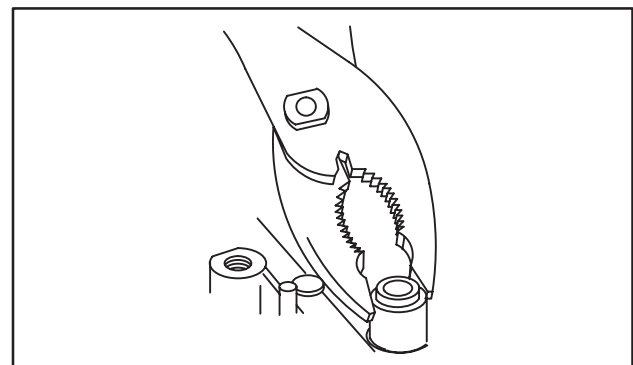

Fig. 11 – Remove Valve Stem Seal
8. Remove and discard valve stem seals, Fig. 11.